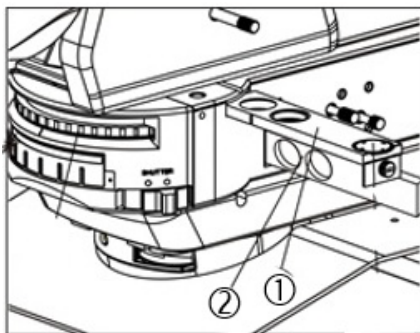

Fig. 13
4.2.11. Installing the Polarizer and Analyzer (Fig. 13)